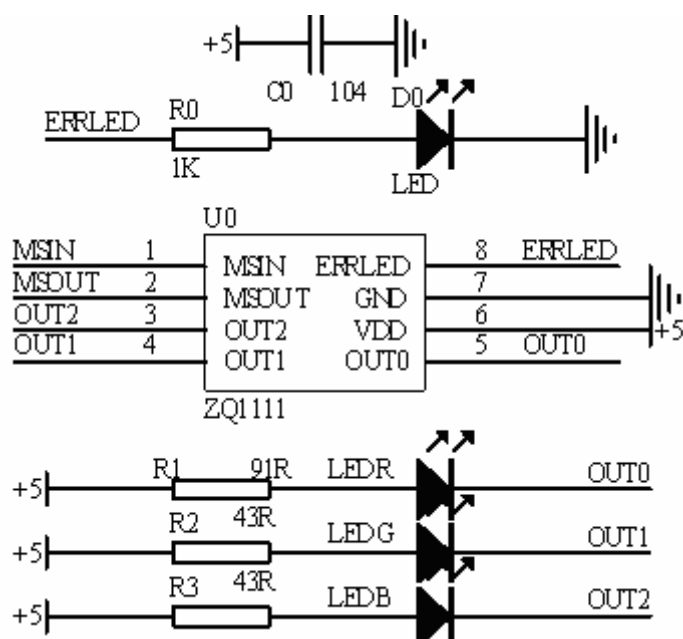

Fig.4 ZQ1111 Application Circuit
- ZQ1111 output is low level active, and the typical drive current is 20mA. Figure 4 shows the value of the resistance of the resistors R1,R2,R3, when the supply voltage is 5V and the operating current is 20mA, the function for calculating the resistances is: